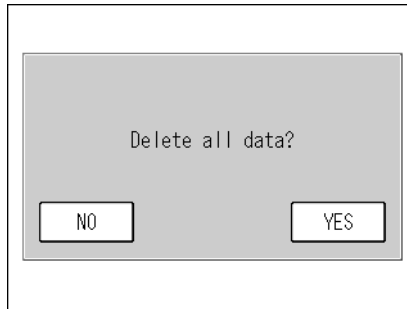

Fig. 67 Message confirming data deletion
- [DELETE]: Displays the message confirming data deletion (Fig. 67 on page 54).